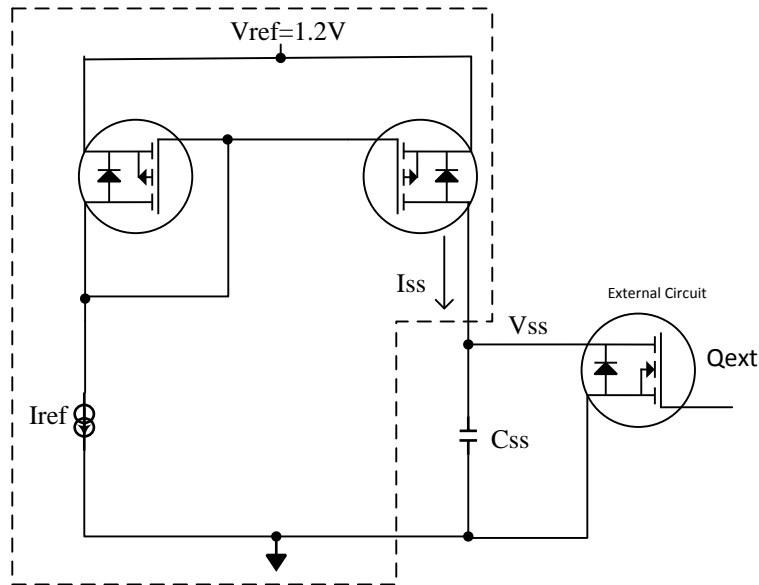

Figure 34. Enable/Disable
Circuit shown in Figure 34 highlights the Soft-start (SS) pin 1 along with block diagram of internal circuitry. Circuitry in dashed outline is internal to the IC composed of PMOSFET current mirror. PMOS current mirror sources current from the positive supply and external circuitry composed of  $Q_{ext}$  is used to sink current from SS pin 1. As highlighted in Electrical Characteristic table – typical  $I_{SS} = 2.5 \mu A$  and max  $I_{SS} = 3.5 \mu A$  for TPS7H1101-SP. If  $I_{SS}$  current is exceeded, such as sinking higher current in excess of max  $I_{SS}$ , this will disable the LDO.